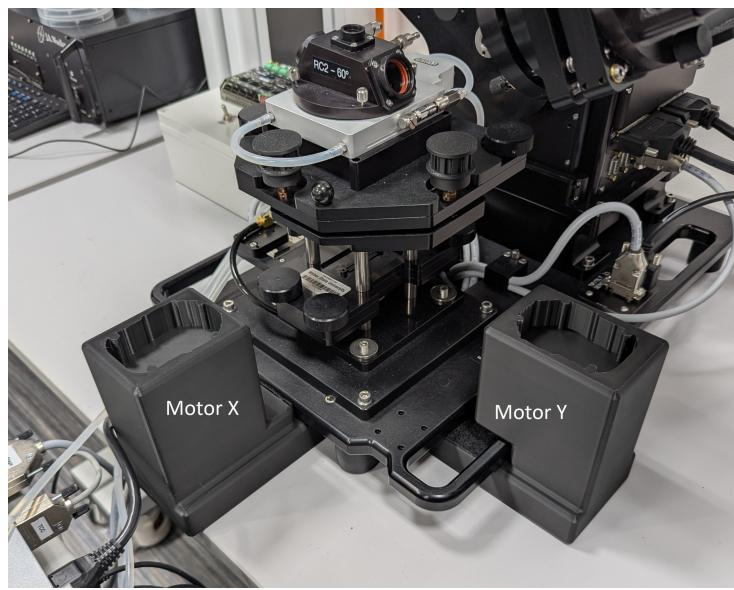

Figure 5: Motor Mount Placement
6. Position the motor mounts in their designated locations, as illustrated in Figure 5. The motorY mount should be on the right side while the motorX mount should be in front of the ellipsometer.